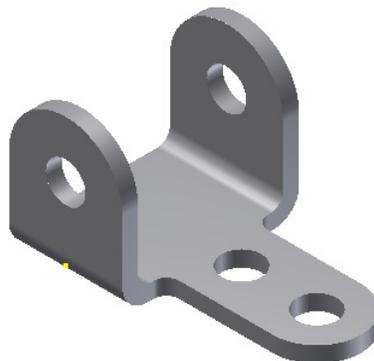

Figure 9-102 The Yoke Plate placed in the assembly
2. Place the *Yoke Plate* in the drawing area using the **Place Component** dialog box, as discussed earlier in the tutorial. The *Yoke Plate* after it is placed in the assembly file is shown in Figure 9-102.